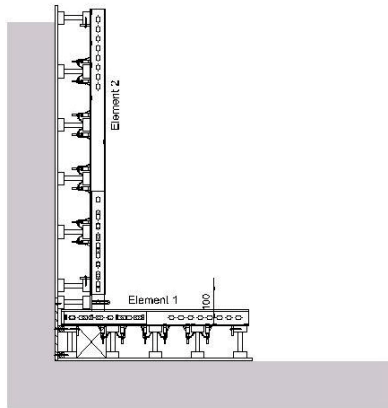

Fig. B5.05
3. Mount element 2 supported by Push-Pull Props and Kicker Braces perpendicular to element 1 and having a minimum distance 10 cm between SRZ Walers. (Fig.B5.05)